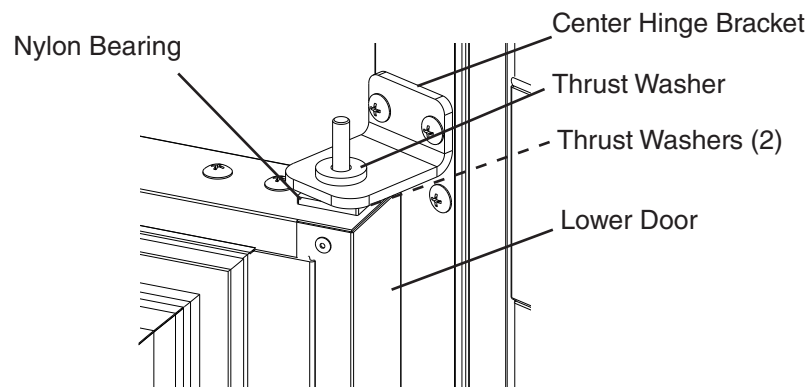

Fig. 28
- 13) Place the center hinge bracket lower pin with thrust washer into the nylon bearing on top of the door. Secure the center hinge bracket to the cabinet. See Fig. 28.